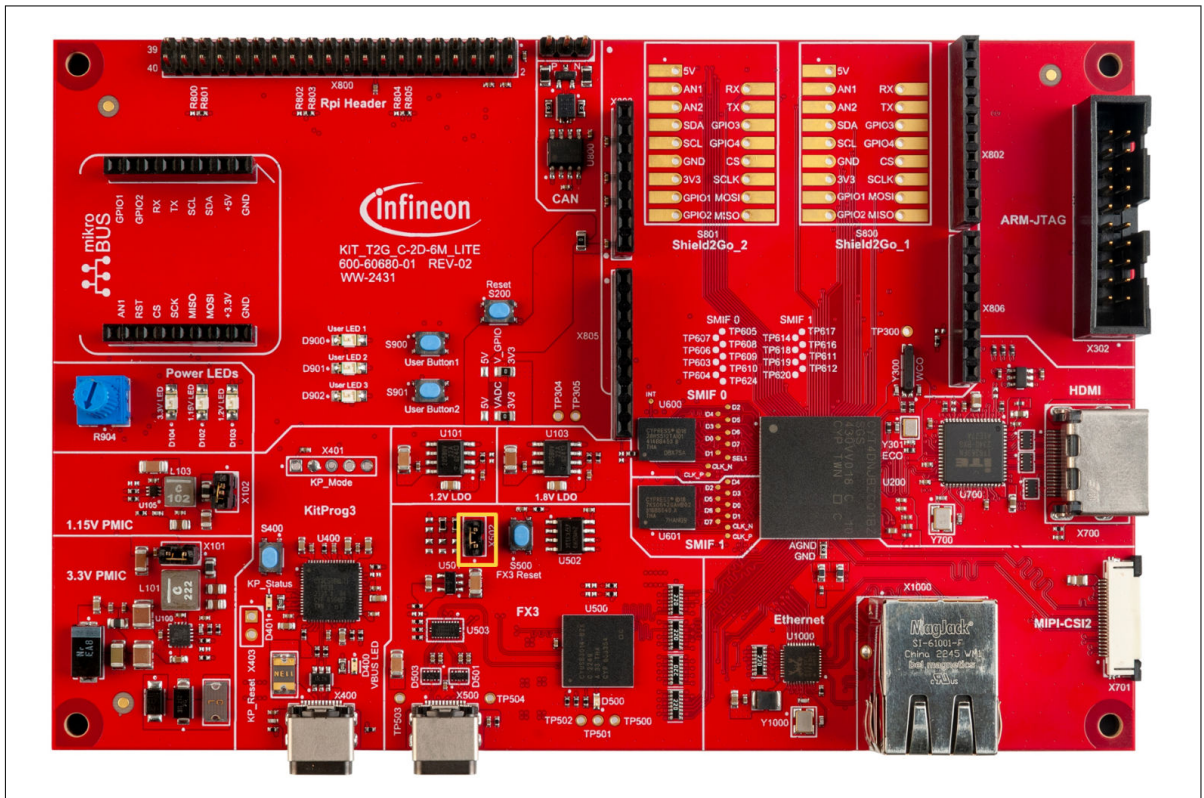

Figure 9 Checking FX3 bootloader jumper on the kit
1. Ensure that the jumper X502 (highlighted in the yellow box in Figure 9) is not shorted. If it is shorted, remove the jumper